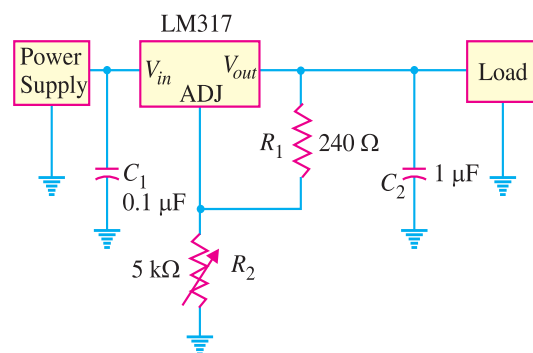

Fig. 17.35
5. If R_2 in Fig. 17.35 is adjusted to $1.68 \text{ k}\Omega$, determine the regulated d.c.output voltage for the LM 317. [10 V]